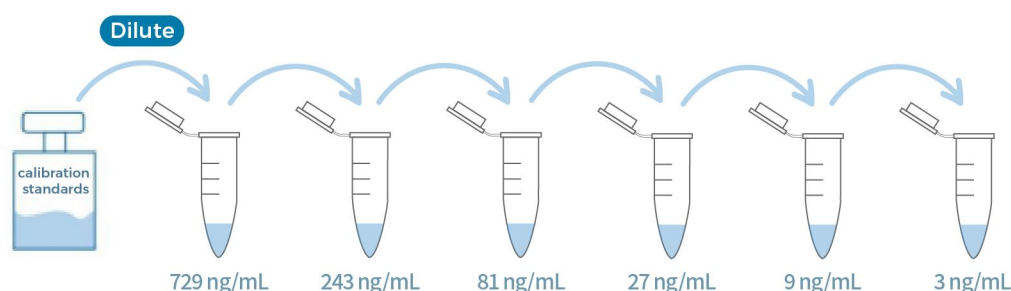

Figure 3. Graphic scheme of *E.coli* HCP-AC Calibration Standard Solutions
- Prepare *E.coli* HCP-AC Calibration Standard Solutions as indicated in Fig 3 and Table 3.